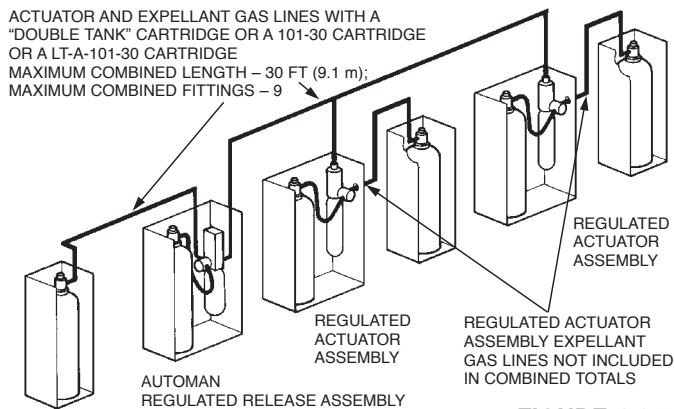

FIGURE 4-122
3. If an expellant gas line is connected to the regulated release assembly along with an actuation gas line, the total combined length of the actuation and expellant gas line **must not exceed 30 ft (9.1 m)** when using a “double-tank” nitrogen cartridge or a LT-A-101-30 nitrogen cartridge or a 101-30 carbon dioxide cartridge. See Figure 4-122.
3. If two tanks are connected to the regulated release assembly in a multiple-tank system arrangement, the total combined length of the actuation and expellant gas lines **must not exceed 30 ft (9.1 m)** when using a “double-tank” nitrogen cartridge, an LT-A-101-30 nitrogen cartridge, or a 101-30 carbon dioxide cartridge. See Figure 4-122.